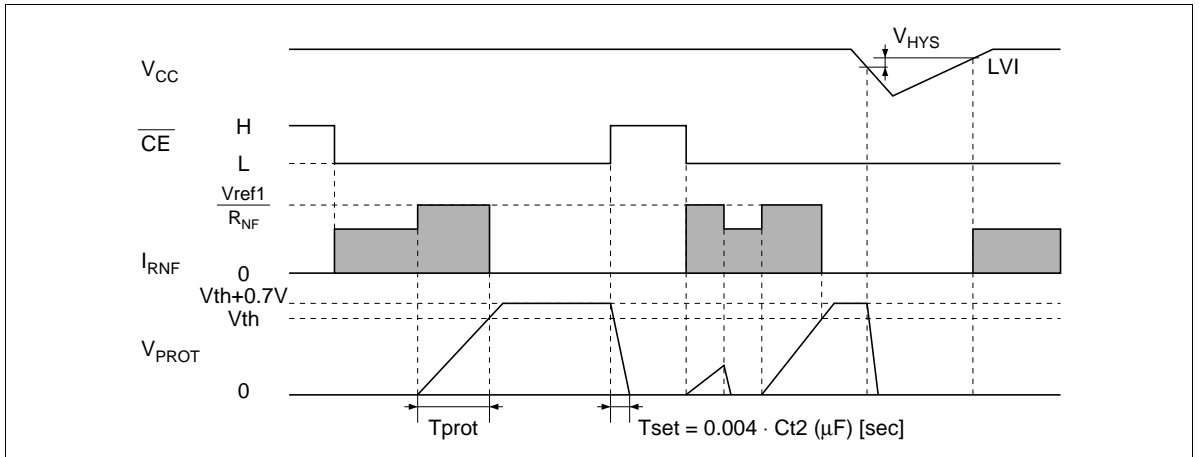

Figure 2 Stuck Rotor Protection Operating Waveforms
7. The formula shown below roughly determines the time, T_{prot} (s), until the stuck rotor protection circuit operates. Figure 2 shows the operating waveforms. The latched state can be cleared by either CE or V_{CC} . Note that a capacitor with a leakage current sufficiently smaller than the charging current $I_{\text{ct+}}$ must be used.